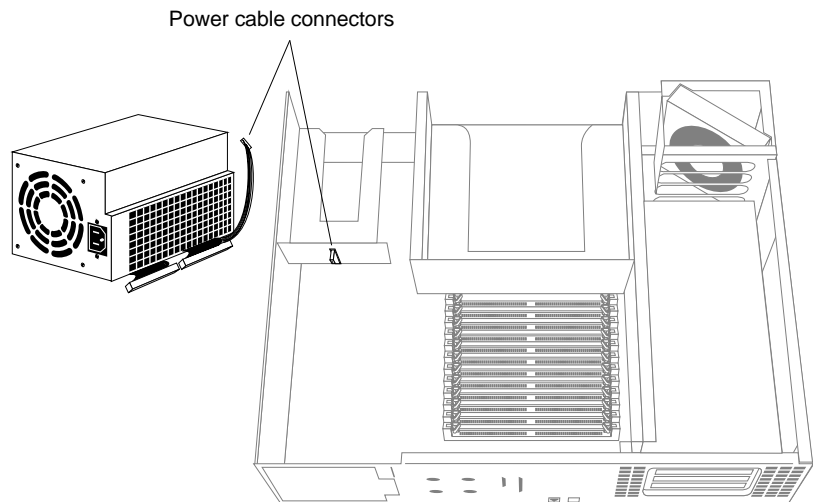

Figure 2-7 Connecting the Power Cable Located Close to the Disk Drives
- Hold the power supply with one hand, and with your other hand connect the free end of the power cable shown in Figure 2-7 to the connector located close to the disk drives.